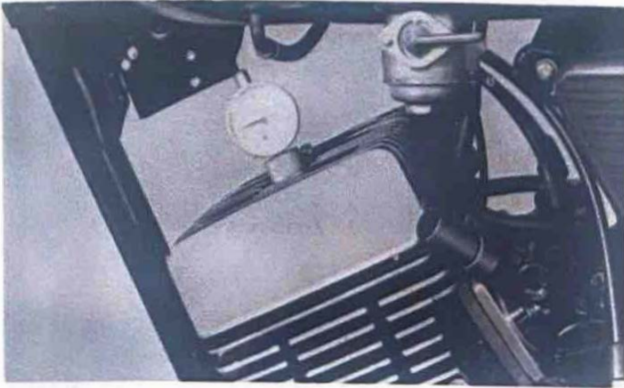

Fig. 48
1. Ignition timing – checking and adjustment (Fig. 48)